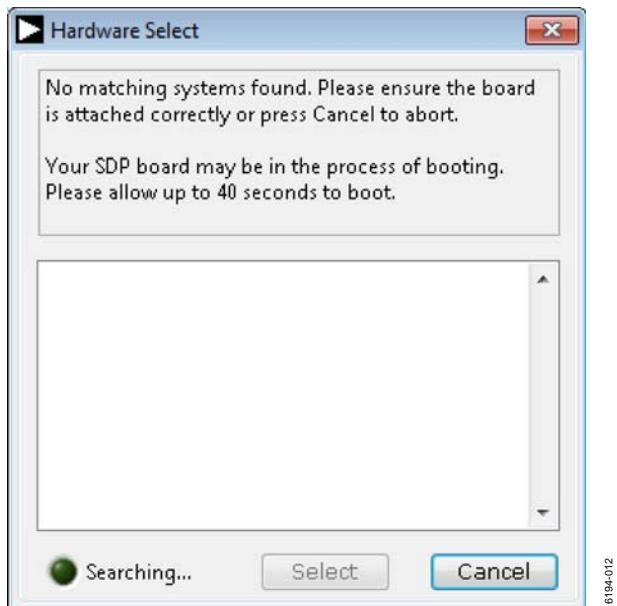

Figure 12. SDP-S Board Not Connected to the USB Port
2. If the SDP-S board is not connected to the USB port when the software is launched, a connectivity error displays (see Figure 12). Connect the SDP-S board to the USB port of the PC, wait a few seconds until the board appears in the lower section of the window, and click Select (see Figure 12).